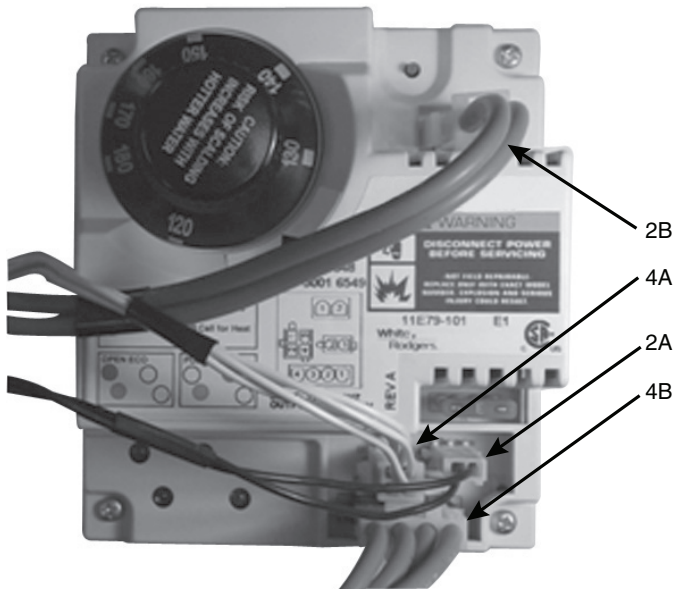

Figure 1 - Connectors
5. Remove the wire connectors that plug into the four locations on the control (see Fig. 1). Note that the connectors have latches which must be depressed. **DO NOT FORCE THE CONNECTORS. DAMAGE TO THE WIRING MAY RESULT.**